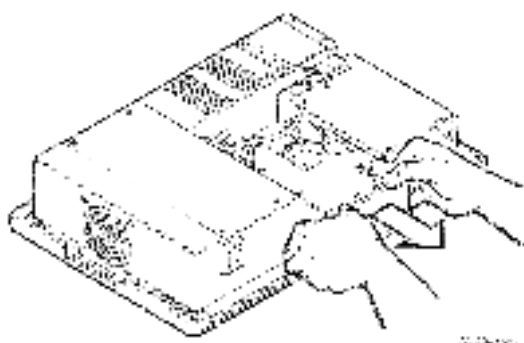

Figure 2-13 Removal, Hard Disk
3. Remove the hard disk drive by sliding it out of the system unit (Figure 2-13).